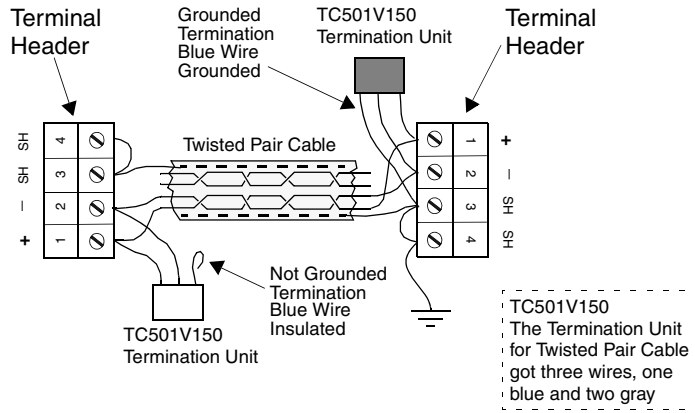

Figure 97. Schematic Image of One Twisted Pair Media Point-to-Point Connection
In TC505/TC506 all shield connections (SH) are connected internally, + connections are internally connected vertically and - connections are internally connected vertically. In Figure 97 a schematic picture over how the cables must be connected and the terminal connection in TC505/TC506 is shown.